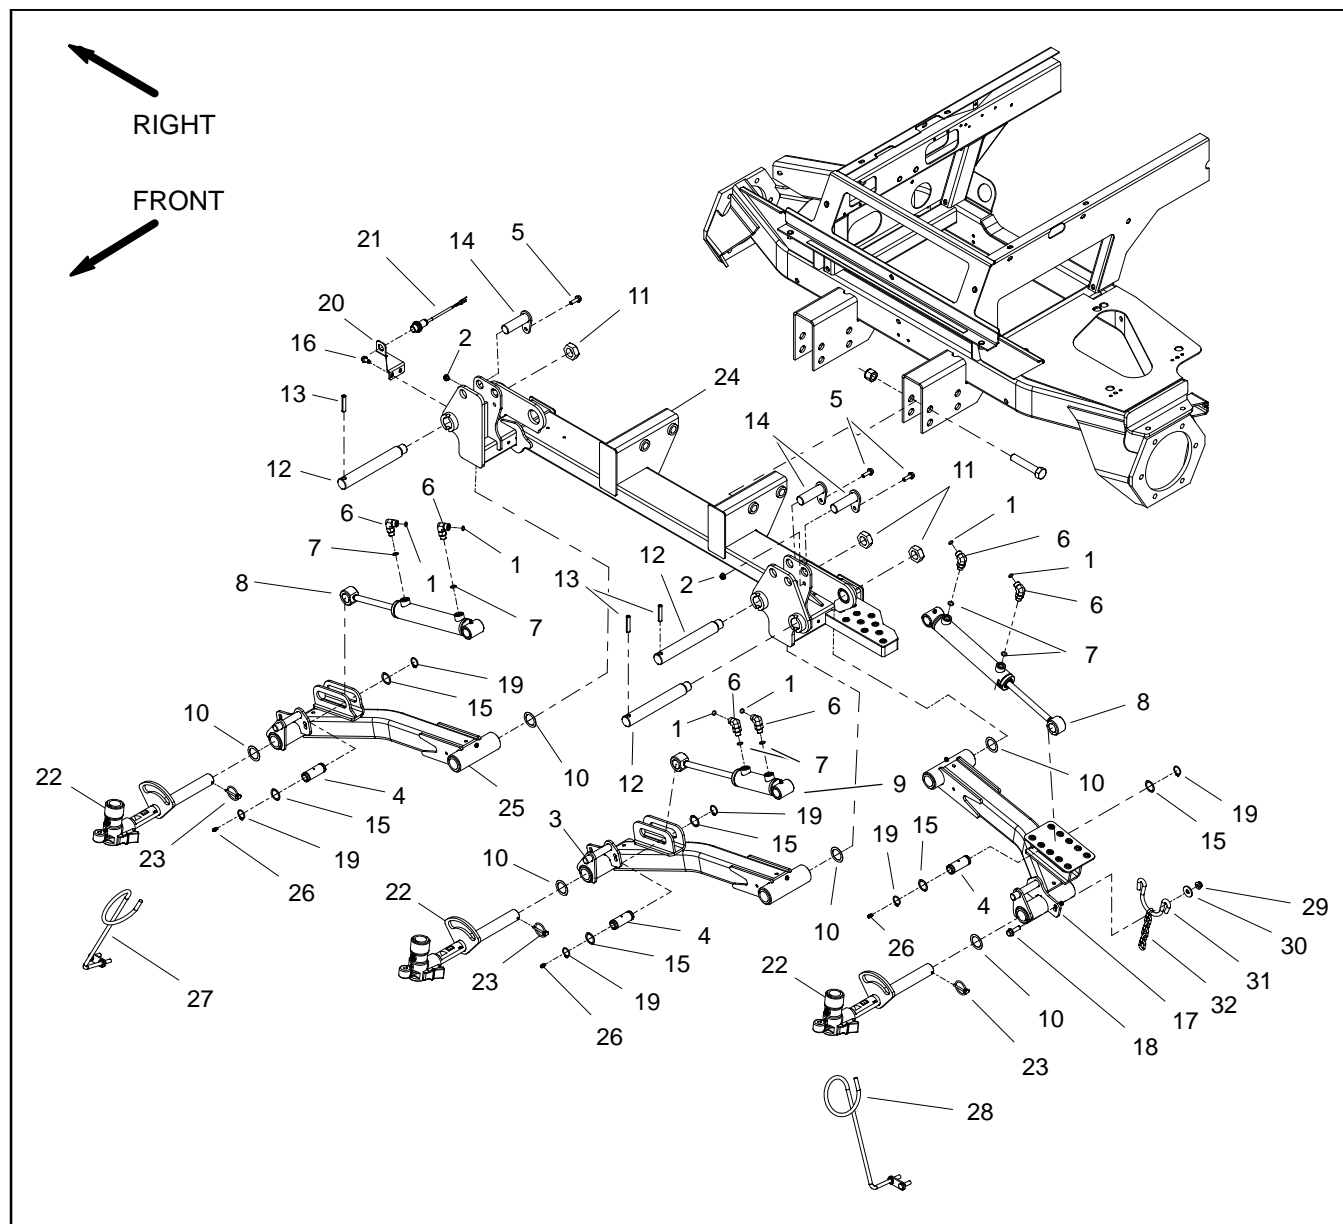
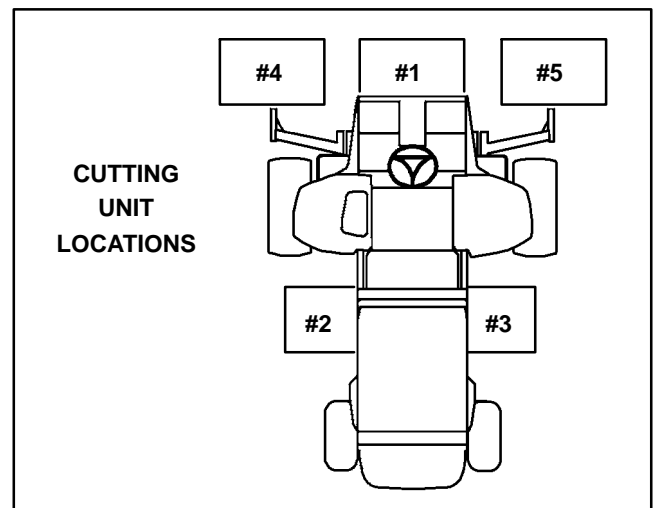

Figure 7
Figure 8
### Removal (Fig 7)
3. If lift arm for either cutting unit #4 or #5 (Fig. 8) is to be removed, remove hose guide (item 27 or 28) from the cutting unit.
4. Remove one (1) retaining ring and washer from the cylinder pin (item 4). Remove cylinder pin from the lift arm and cylinder rod clevis which will free lift cylinder from lift arm.
5. Loosen and remove lock nut (item 11) from lift arm pivot pin.
6. Support lift arm and pull lift arm pivot pin from lift arm and frame. Locate and remove thrust washer (item 10) from rear of lift arm during pivot pin removal.
7. Disassemble lift arm as needed using Figure 7 as a guide.
### Installation (Fig 7)
1. Assemble lift arm using Figure 7 as a guide.
2. Position lift arm to frame. Fit thrust washer (item 10) between rear of lift arm and frame. Slide pivot pin into frame and lift arm. Align roll pin in pivot pin with slot in frame flange.
3. Install and tighten lock nut (item 11) to secure lift arm pivot pin.
5. Make sure that one (1) retaining ring and washer are installed on cylinder pin (item 4). Insert cylinder pin through the lift arm and lift cylinder clevis. Secure pin with second washer and retaining ring. Make sure that retaining ring is fully seated in pin.
**NOTE:** Install thrust washer (item 10) on carrier pivot shaft before installing cutting unit on pivot shaft.
7. If lift arm for either cutting unit #4 or #5 was removed, install hose guide (item 27 or 28) to the cutting unit.